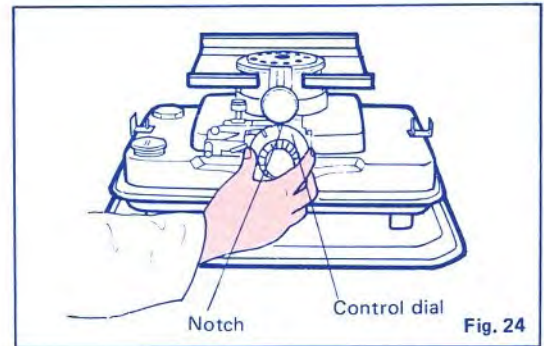

Fig. 24
- 14 The small notch on the edge of the orange indicator dial (located directly behind the wick control knob) should point straight up. If necessary adjust the dial to that setting. Failure to do so will not permit the proper adjustment and operation of the wick within the Normal Range (Fig. 24).
- 17 Wait thirty (30) minutes before lighting the heater to allow the wick to absorb sufficient kerosene.